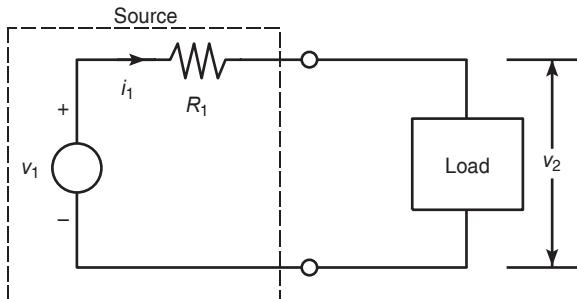

Figure P25
- 25. Figure P25 is a representation of an electrical system with a power supply and a load. The power supply produces the fixed voltage v_1 and supplies the current i_1 required by the load, whose voltage drop is v_2 . The current-voltage relationship for a specific load is found from experiments to be